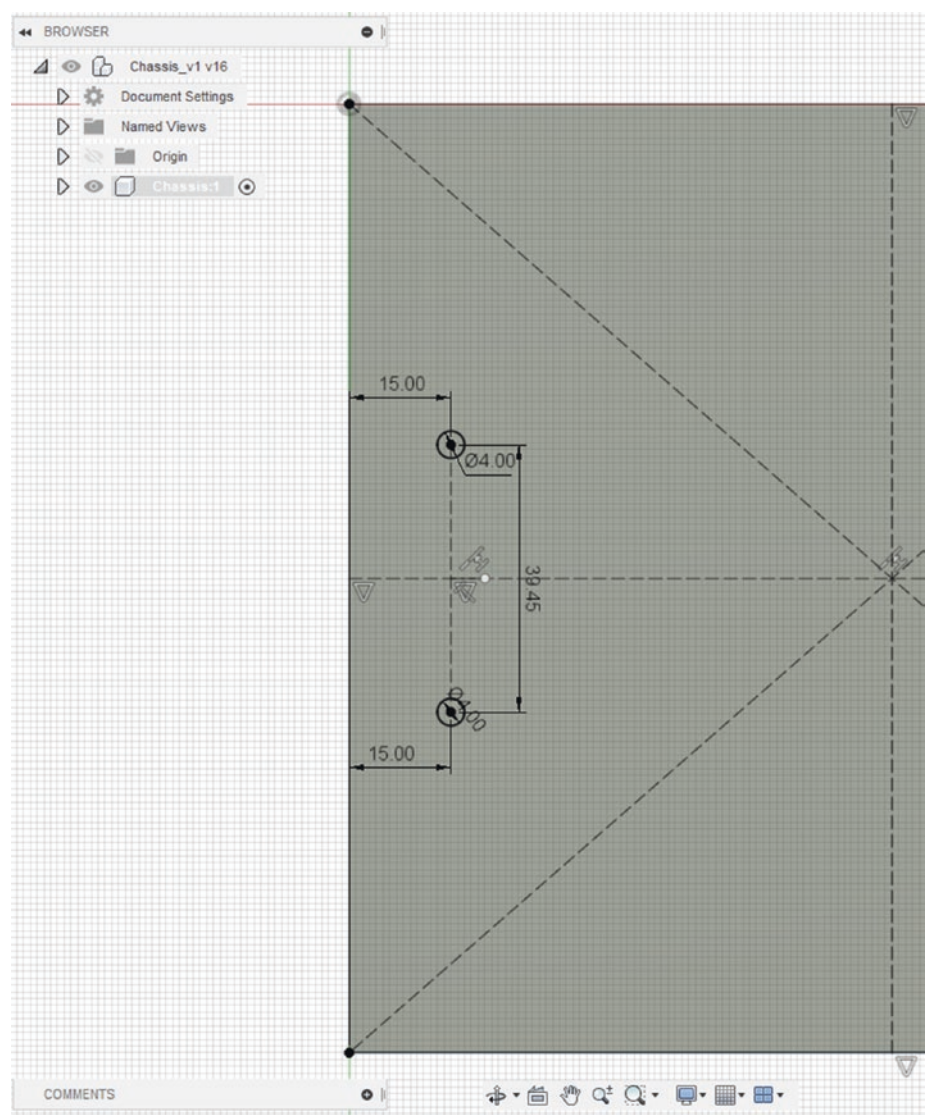

Figure 6-53. Add the holes for the caster wheel
5. Create two 4mm holes for the caster wheel. They should be 39.45mm apart and 15mm away from the front edge of the chassis. See Figure 6-53. Remember to use the distancing tool (press the “d” key) to create the constraints in Figure 6-53. Also, convert all non-essential lines to construction lines by selecting the line and pressing the “x” key.